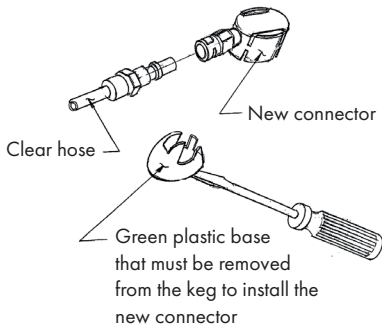

Figure 16
1. Remove the adapter that comes with the barrel and then recycle the adapter according to the relevant regulations of the environmental protection law (see figure 16).